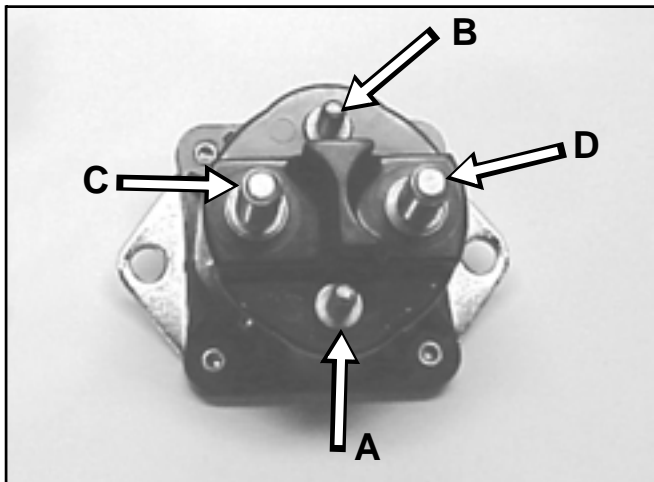

Figure 82
4. You should be able to hear the solenoid switch “click” when you make the connection (Figure 82).